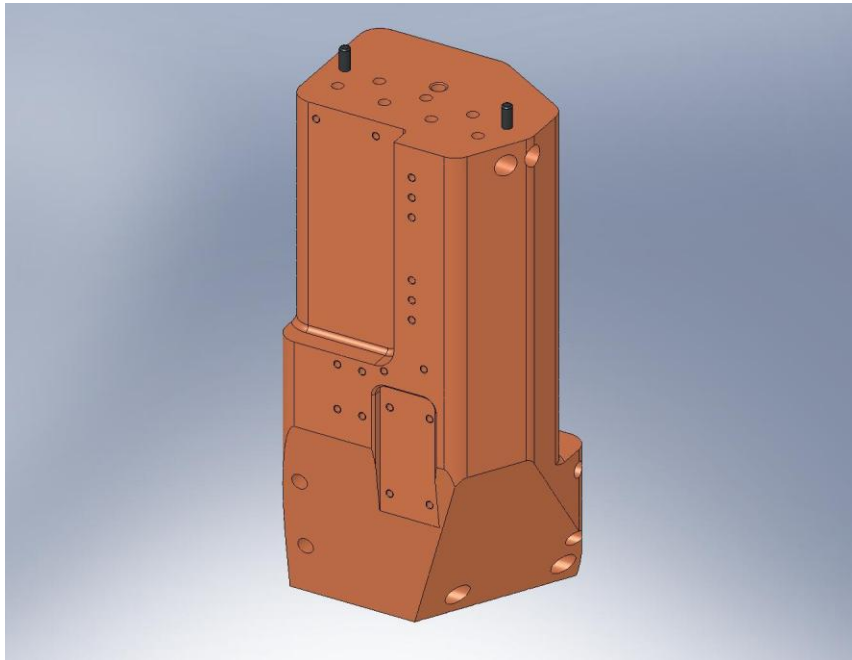
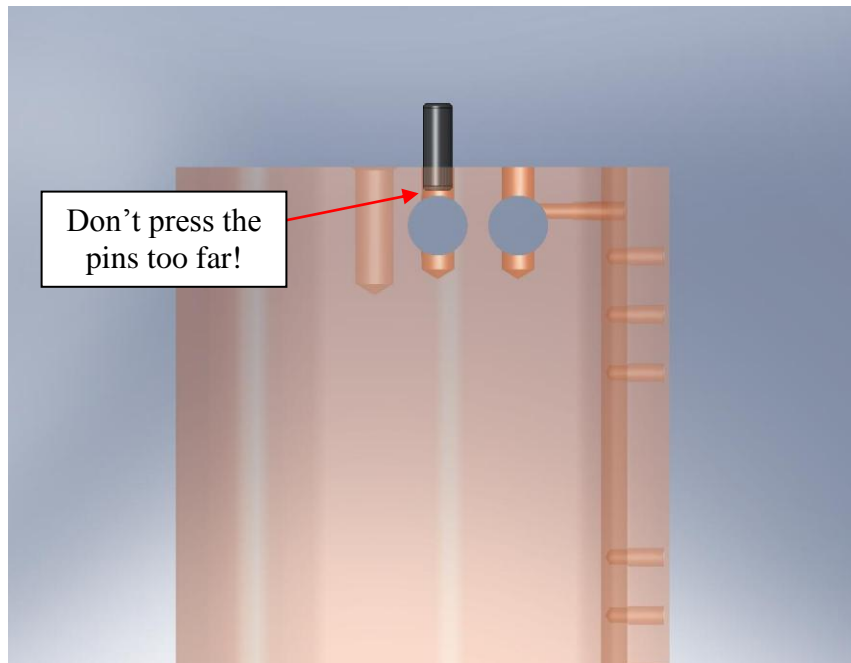

Figure 1.5. Press (2) dowel pins into the top surface of each Support Post.
Figure 1.6. The pins must not stick into the Gang Barrel Nut holes.
- Press (6) 1/2"x1.5" dowel pins (McMaster-Carr #90145A716) into **Stage 0 Base**, for locating the **Support Posts**. Pins should sit .45" +/- .02" above the surface of the **Base**. *Caution: if the pins protrude more than .48" above the Base, they will interfere with the **Gang Barrel Nuts**.*
- Insert Heli-Coils into (3) **Support Posts** (D071002):
- Press (2) 1/2"x1.5" dowel pins (McMaster-Carr #90145A716) into each of the (3) **Support Posts**, for locating **Springs**. Pins should sit about 1.10" above top surface of **Posts**, as shown in Figure 1.5 and Figure 1.6.